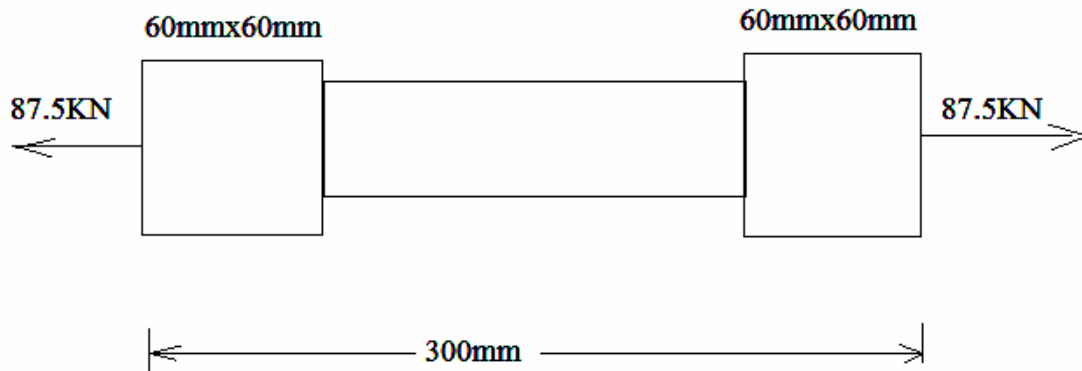

Fig.1
- 1.a) A tie bar has enlarged ends of square section $60\text{ mm} \times 60\text{ mm}$ as shown in Fig.1. If the middle portion of the bar is also of square section, find the size and length of the middle portion if the stress there is 140 N/mm^2 and the total extension of the bar is 0.14 mm .